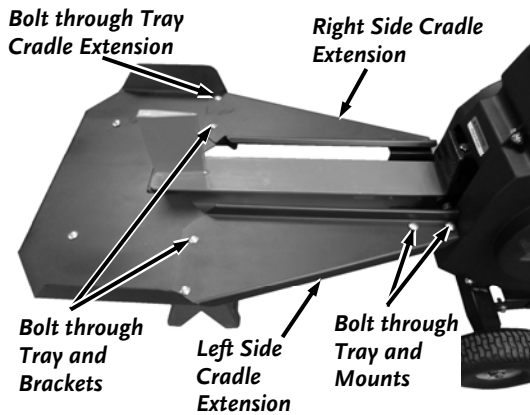

Figure 5
5. Position the right and left side Cradle Extensions and secure to the Tray and Mounts with eight 3/8-16 X 1" Carriage Bolts and 3/8-16 Flanged Locknuts by hand but do not tighten (**Figure 5**). Ensure that the two forward inner Bolts go through the Cradle Extension, Tray and Support Brackets.